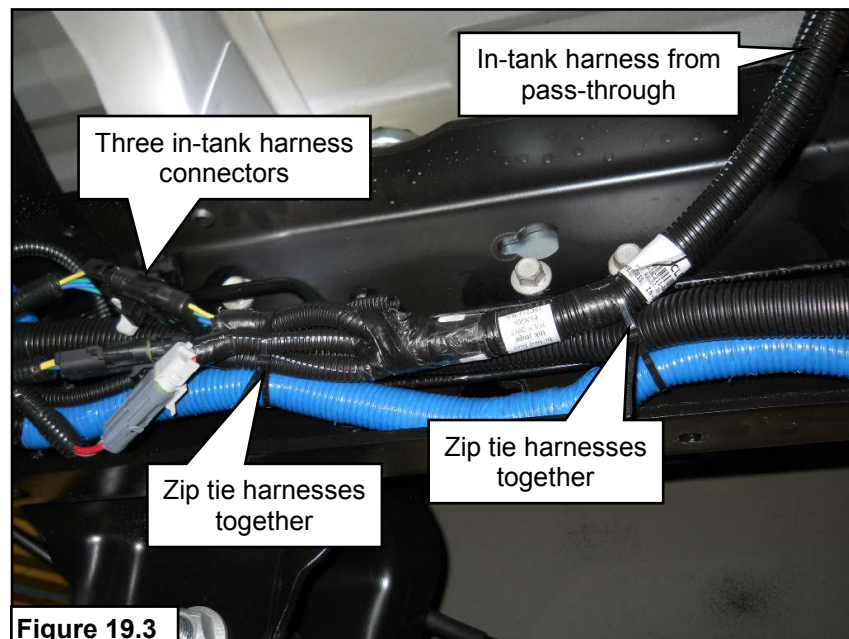

Figure 19.3
5. Route the in-tank harness over to the rear wiring harness. Bundle the harnesses together and use zip ties to secure the harnesses to each other. **Figure 19.3.**
6. Attach the three in-tank harness connectors to the rear harness in-tank connections. **Figure 19.3.**